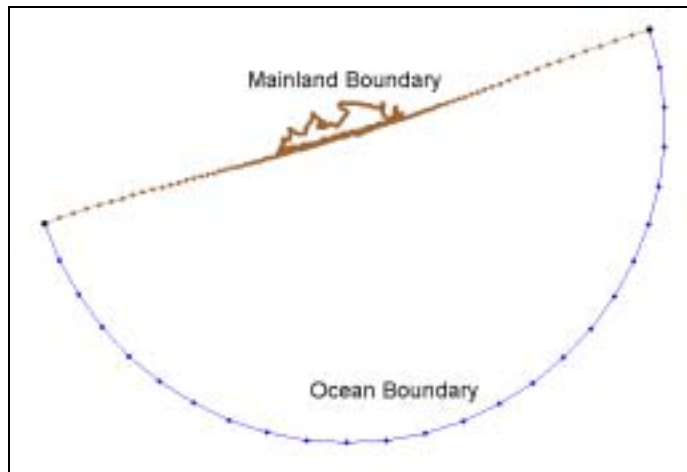

Figure 13-1 Feature Arcs after boundary types have been assigned.
2. Double click the arc representing the ocean boundary, shown in Figure 13-1.
5. Repeat this process for the coastline arc, but make sure the boundary type is set to *Mainland*, as shown in Figure 13-1.